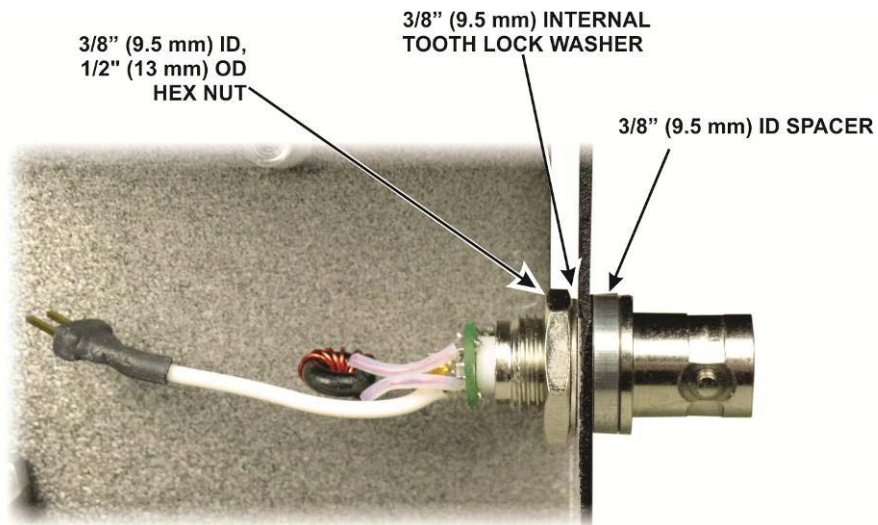

Figure 43. Antenna Connector Mounted on Bottom Cover.
□ Mount the antenna connector assembly in the largest hole in the bottom cover end plate as shown in Figure 43. Note that the hole has a flat side. Align it with the flat on the connector.